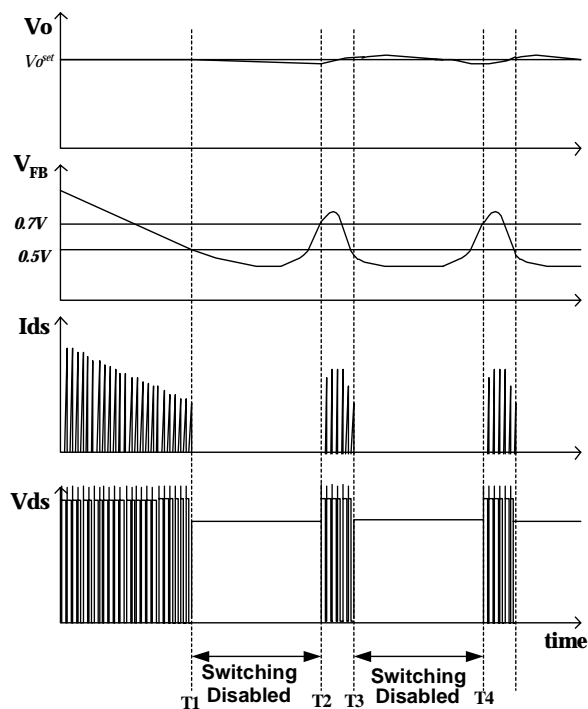

Figure 8. Waveforms of Burst Operation
5. Burst Operation: To minimize power dissipation in standby mode, the FSDM0465RB enters burst mode operation. As the load decreases, the feedback voltage decreases. As shown in Figure 8, the device automatically enters burst mode when the feedback voltage drops below V_{BURL} (500mV). At this point switching stops and the output voltages start to drop at a rate dependent on the standby current load. This causes the feedback voltage to rise. Once it passes V_{BURH} (700mV), switching resumes. The feedback voltage then falls and the process repeats. Burst mode operation alternately enables and disables switching of the power SenseFET thereby reducing switching loss in Standby mode.